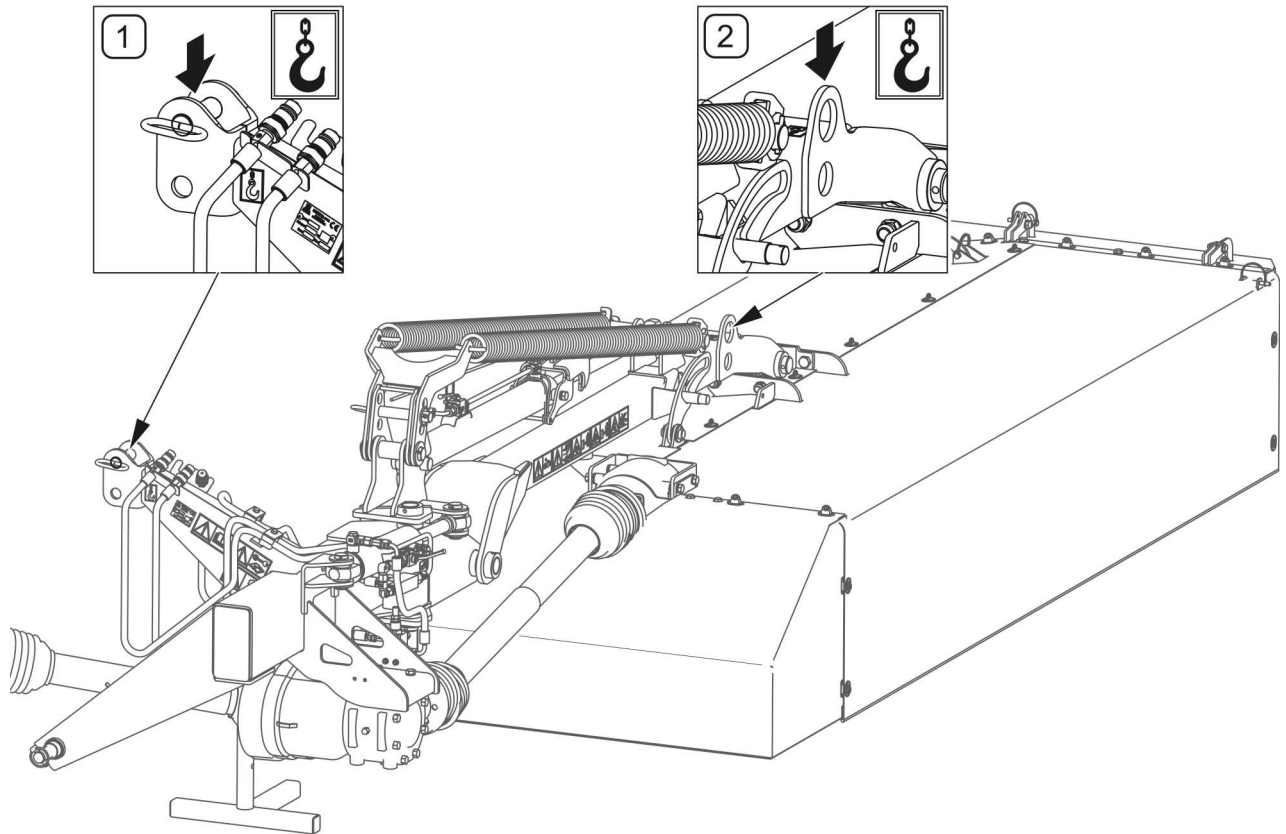

FIG. 1.3A Transport lugs
The machine should be attached to lifting equipment in places intended for this (FIG. 1.3A), i.e. two central connection pin (1) and transport lug (2). When lifting the machine take particular care due to the possibility of tipping over the machine and the risk of injuries from protruding parts. To keep lifted machine in the correct direction it is recommended to apply additional guy ropes. During the loading work particular care should be taken not to damage paint coating.